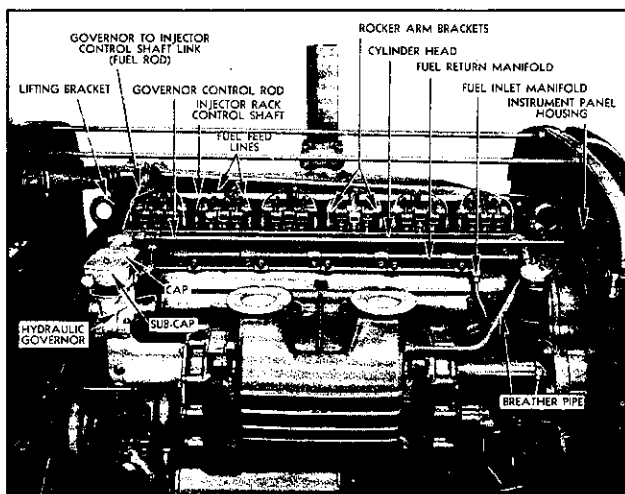

Fig. 5—Hydraulic Governor Mounting and Connections to Injector Rack Control Tube.
10. Remove three capscrews at top of governor, holding cap and sub-cap to governor housing and two cap screws at side of cylinder head, holding sub-cap to head, then raise and pull cap, sub-cap, and link, away from governor housing proper. (See Fig. 5.)